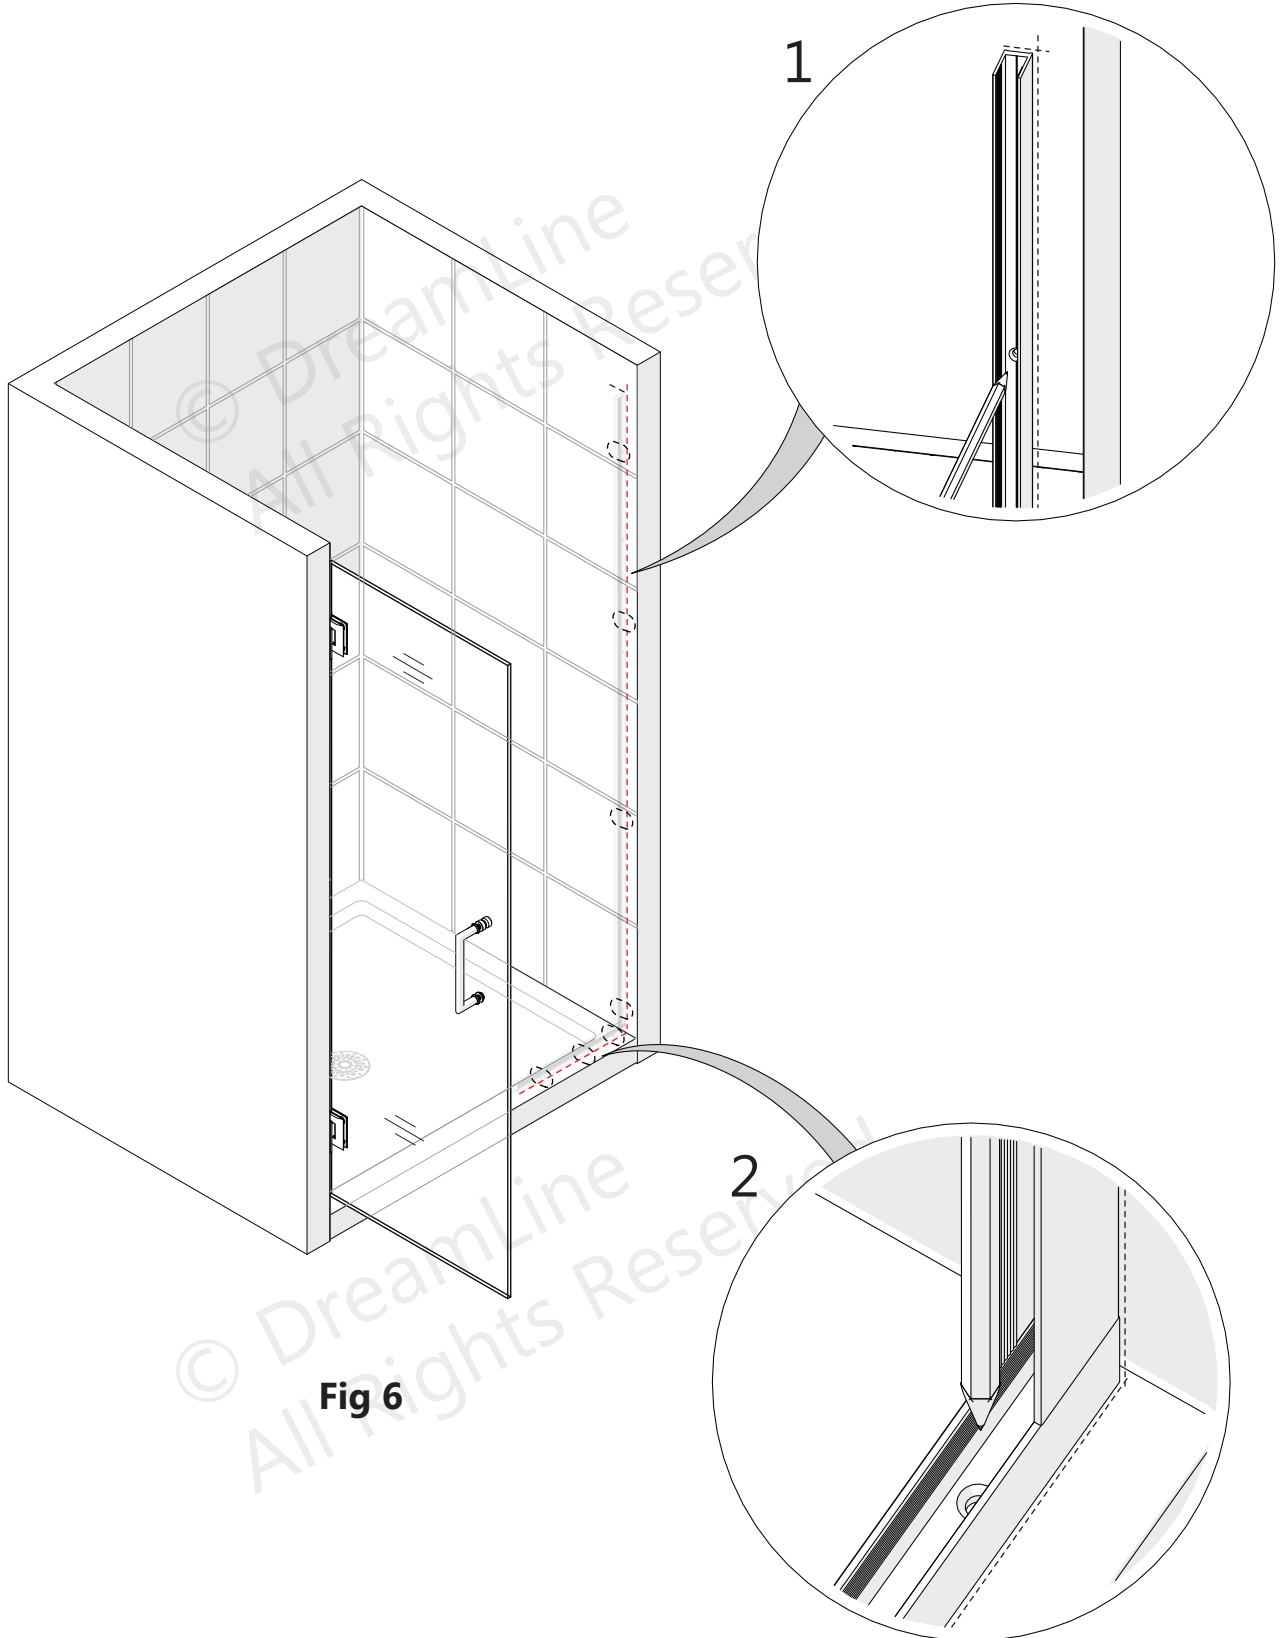

Fig 6
6. Place the **Wall Profile (#09)** back onto the outlined position on the wall and mark the holes for drilling through the predrilled holes in the **Wall Profile (#09)**. (Fig 6)